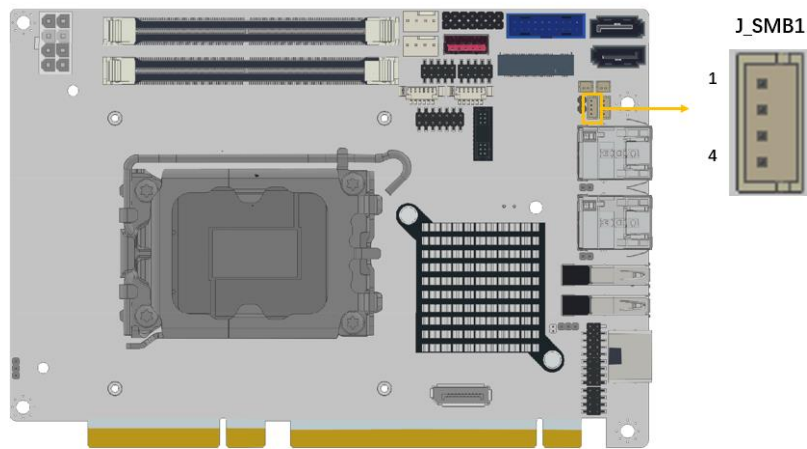

Figure 3-17: SMBus Connector Location
- CN Location:** See Figure 3-17